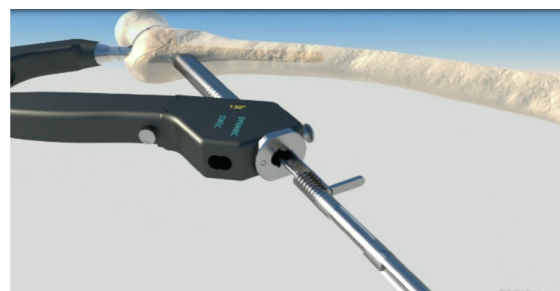

Figure 14b
- Connect the tension screw to the tension screw driver, screw it into the femoral head until it reaches the 0 mark position on the driver, and screw it into the femoral head until it reaches the 0 mark position on the driver (Figure 14b).